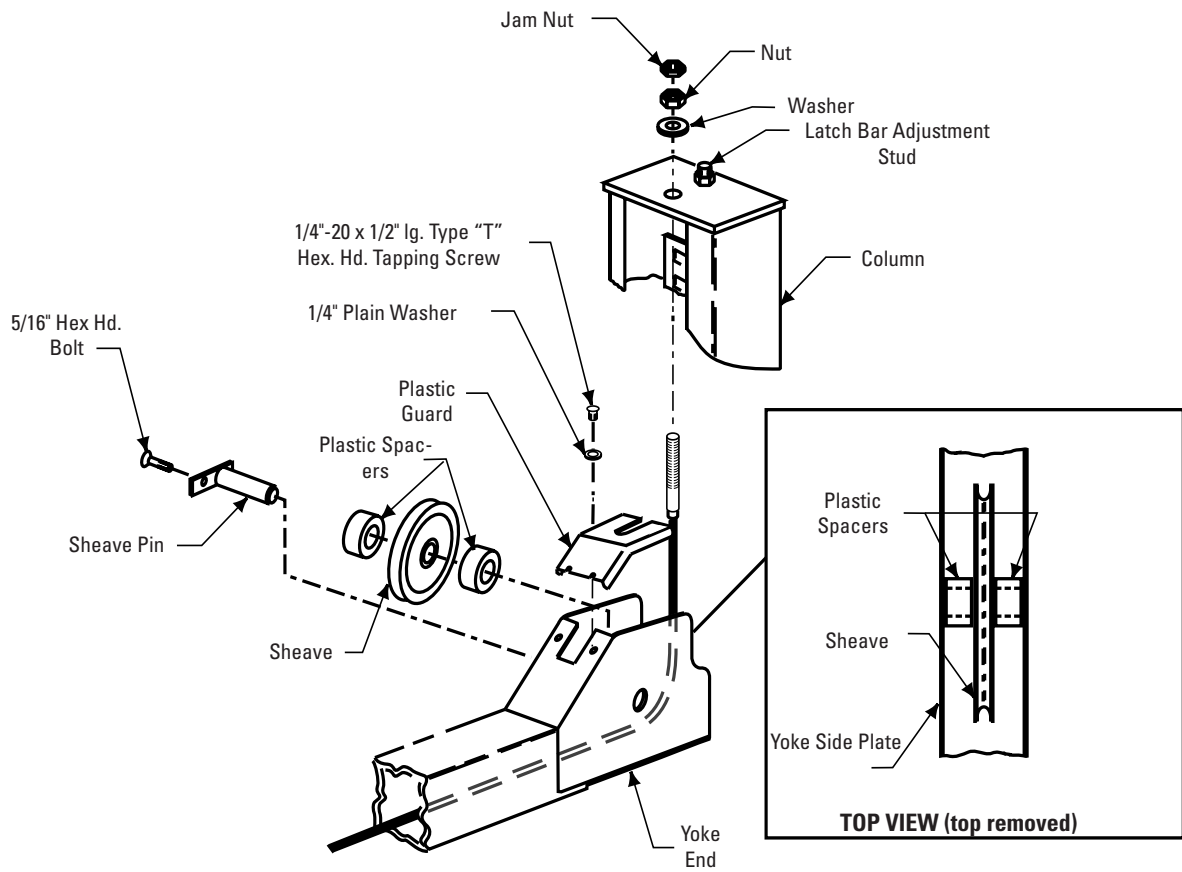

Fig. 8
- B. Retain with sheave pin and 5/16" hex head machine bolt. Attach each cable to column top plate with spacer, nut, and jam nut, Fig. 8. Install rubber sheave guard on each yoke end, Fig. 8. Roping diagram shows a view of completed roping, Fig. 9.
- G. Install yoke end sheaves and plastic spacers, Fig. 8. A plastic spacer is placed on each side of the sheave, inset Fig. 8.
Adjust cable with lift fully lowered. Loosen jam nut and tighten nut on cable stud on top of column until yoke end raises 1/4". Back off nut one turn. Retighten jam nut. Repeat for all four cables. Refer to Fig. 8.